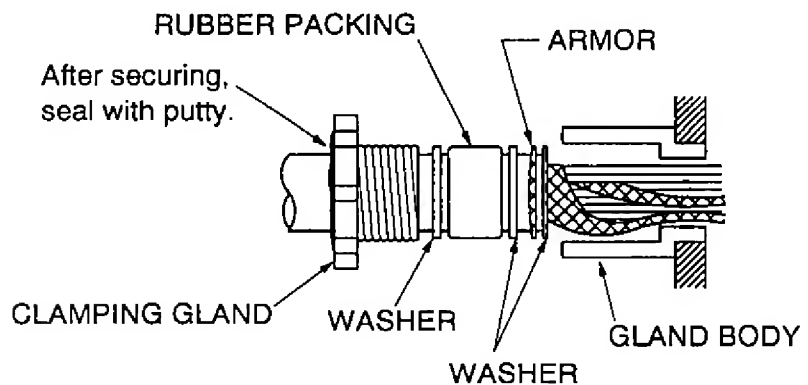

Fig. 2-5 Fabricating the Signal Cable RW-6895
6. Ground the armor through the two washers as shown in Fig. 2-5. Trim the shields considering their location on the earth terminal inside the scanner unit, fit crimp-on lugs (yellow, FV2-4 ø4) to each shield, then connect to the ground terminal in the scanner unit.